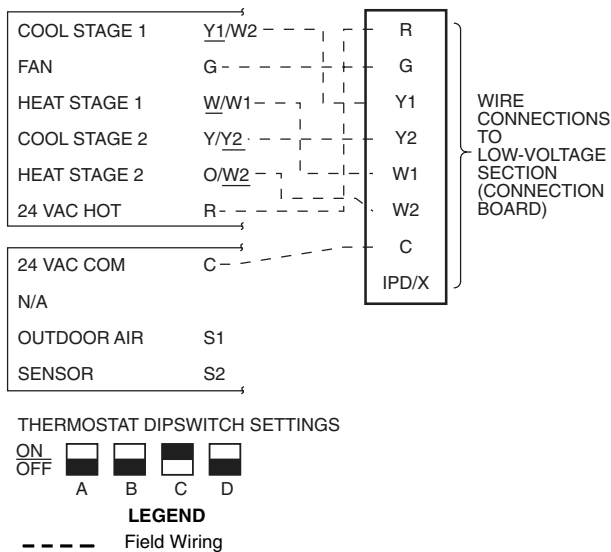

Fig. 9 — Low-Voltage Connections
Route thermostat cable or equivalent single leads of colored wire from subbase terminals to low-voltage connections on unit (shown in Fig. 9) as described in Steps 1 through 4 below.
4. Feed wire through the raceway built into the corner post to the 24-v barrier located on the left side of the control box. See Fig. 9. The raceway provides the
5. Connect thermostat wires to screw terminals of low-voltage connector (see Fig. 9).